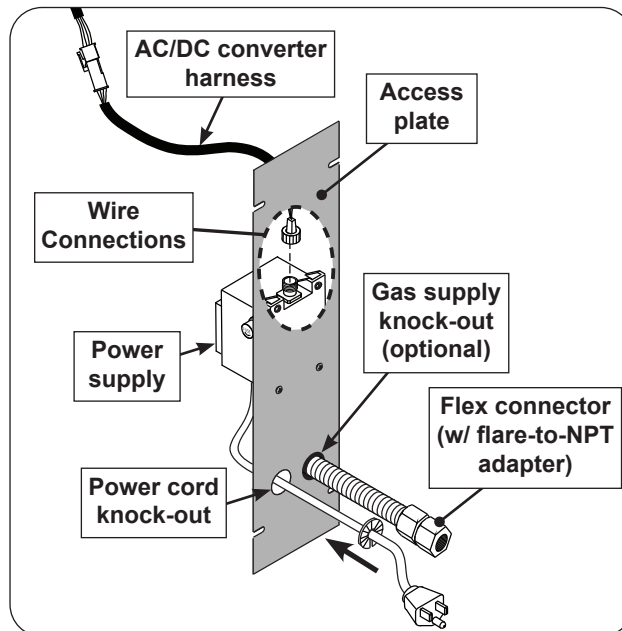

Fig. 25-1 Access plate view & install orientation
A power supply is pre-mounted to the access plate. For ease of installation, disconnect the converter harness from the power supply. Locate the wires coming from the inside of the post to the power supply and carefully disconnect (see Fig. 25-1 and 25-2).
4. Install the bushing onto the power cord and slide the bushing up against the access plate knock-out hole and snap into place. See Fig. 25-1.
2. Remove the plastic grommet (attached to the flex connector) and insert it into the newly created opening. Then route the flex connector through the opening. See Fig. 25-1 and 25-2.